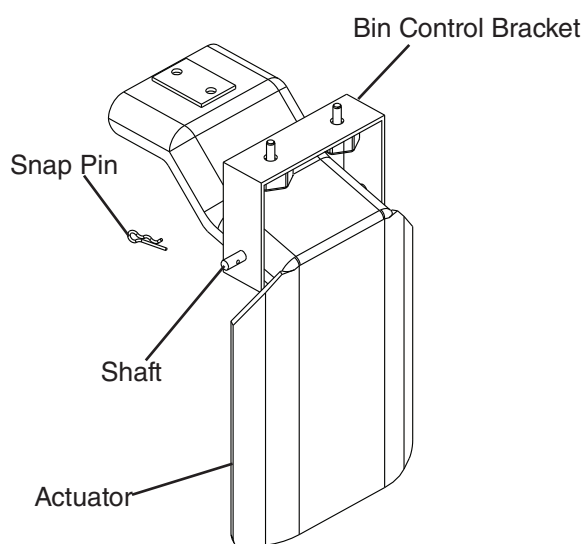

Fig. 10
- 5) Remove the bin control assembly. See Fig. 10.